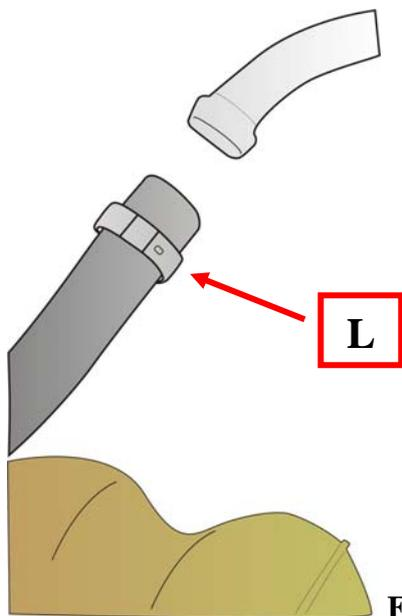

Fig. 8
- Insert the clamp (**L-Fig. 8**) supplied as a spare part (p/no N 90409501) onto the hose.